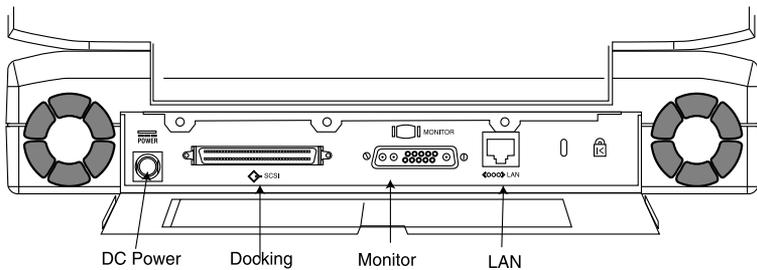

Figure 3-9 UltraBookIII Rear Access port
3. Attach a twisted-pair cable to the UltraBookIII's 10-Base T/100-Base T Ethernet connector (see Figure 3-9).